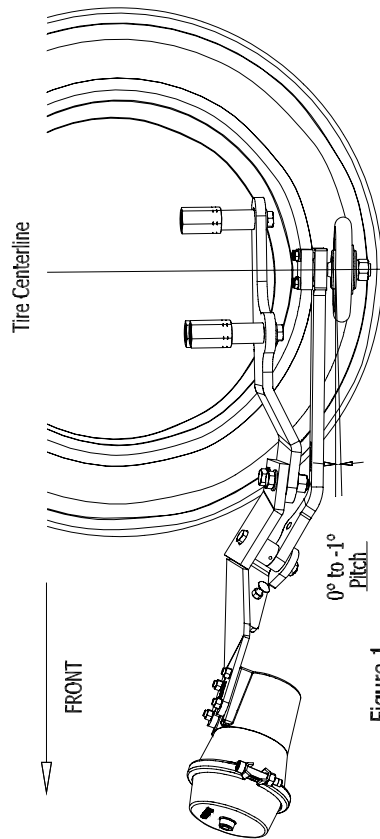

Figure 1
- a. Chainwheel should contact the tire at the **VERTICAL CENTERLINE of the tire.** (ref Fig. 1)
- b. The **PITCH** of the chainwheel should be **0** to **-1** degree (ref Fig. 1)